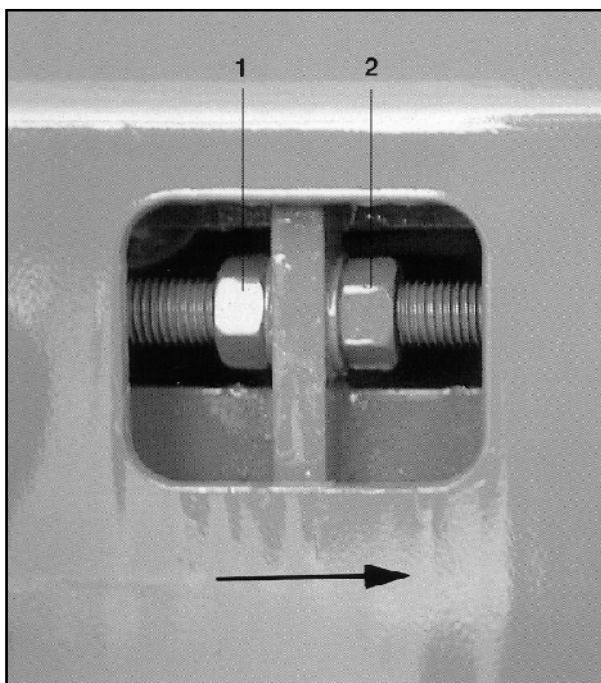

Fig. 17.5
1. Loosen the rear counter nuts (fig. 17.5/1) on both sides by turning them to the left (the direction of travel is indicated by the arrow).
2. Turn the hexagonal nuts (fig. 17.5/2) on both sides to the left **by the same amount** (the direction of travel is indicated by the arrow).
Important! The amount that the hexagonal nuts (fig. 17.5/2) have been moved must be the same on both sides of the belt unit. Do not turn the two hexagonal nuts (fig. 17.5/2) by more than 1/2 a spanner turn. Tighten the counter nuts and check whether the conveyor belt is running evenly.